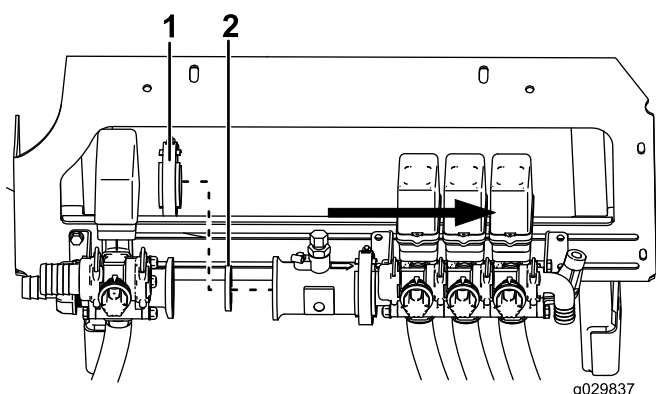

Figure 2
4. Remove the worm clamp and gasket, and carefully slide the flowmeter and section valve assembly away from the agitation valve (Figure 2).